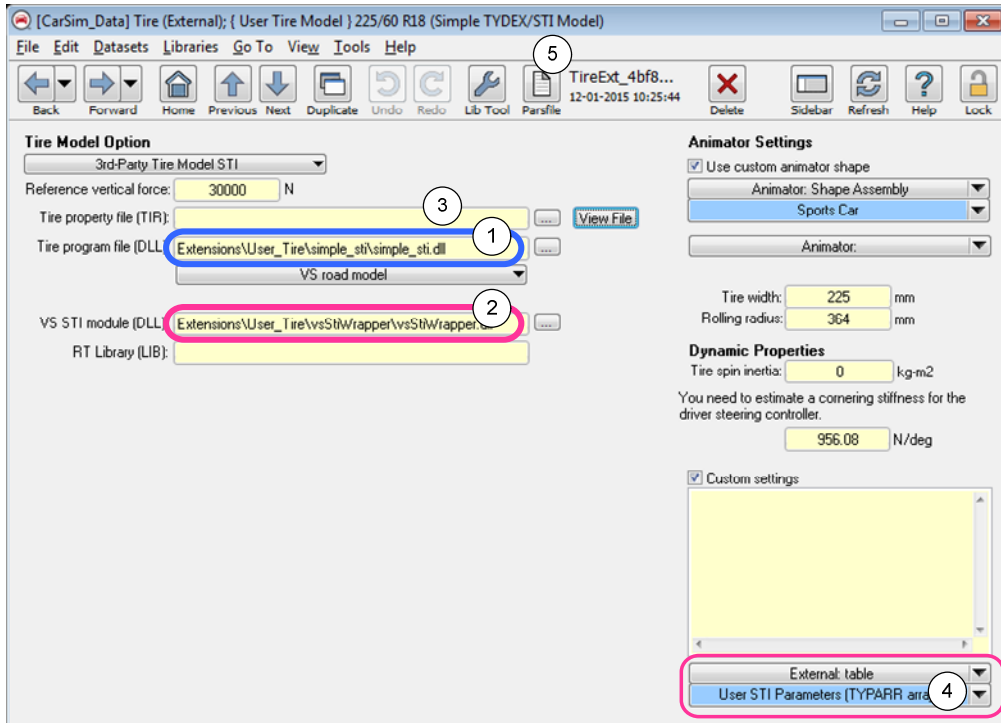
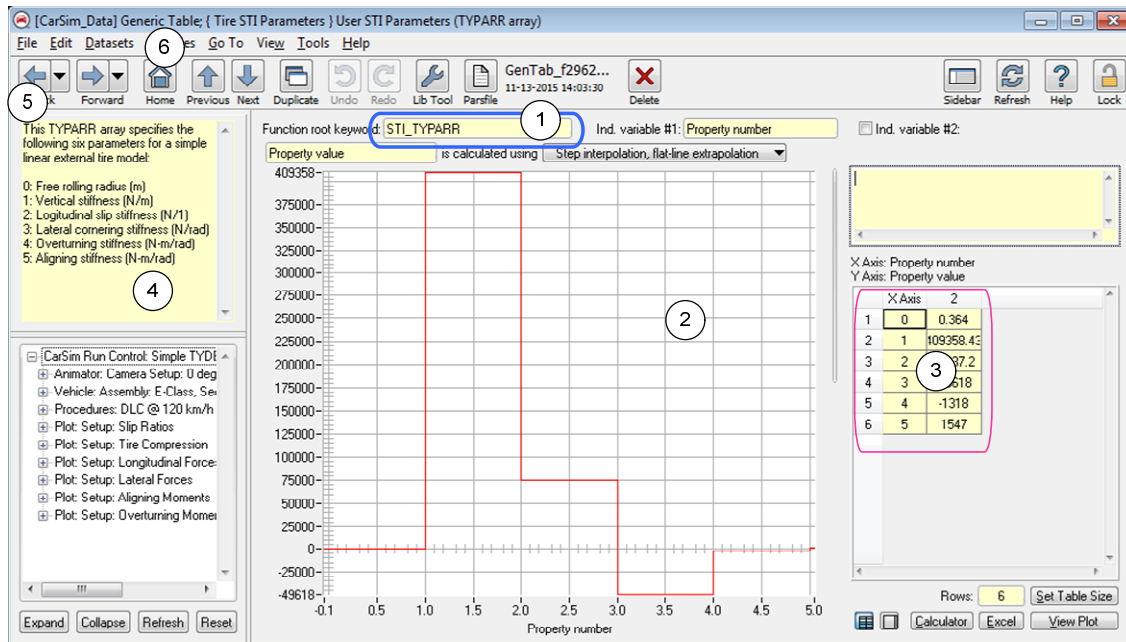

Figure 5. Setting of a simple TYDEX STI tire model on Tire (External) screen.
Figure 7. Setting of a tire parameter array on Generic Table screen
Click the **Vehicle** link ① and then the **Tire** link to view the **Tire (External)** screen (Figure 5).
Click the **External: table** link (4) (Figure 5) to view the **Generic Table** screen (Figure 7).
The source code and project files for the VS STI module that is used for this example (specified on **Tire (External)** screen, VS STI module (2) shown in Figure 5) are contained in the folder Extensions\User\_Tire\vsStiWrapper\. The DLL created with this project will in turn load the simple example TYDEX STI DLL, which contains the tire model equations.